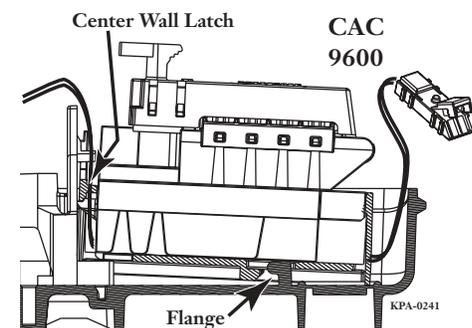

Figure 3
**CAC 9600:** Insert the lower flange of the adapter onto the base latch of the CAC 9600. Lower the adapter assembly and capture the adapter with the center wall latch (Figure 3).